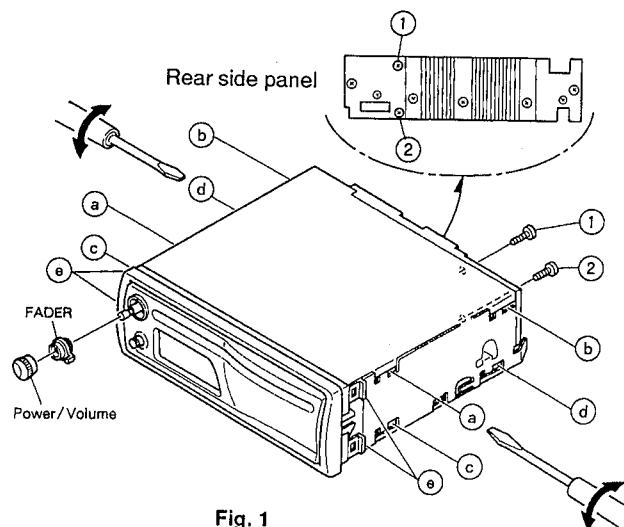

Fig. 1
■ Top cover and bottom cover(refer to Fig. 1)
1. Remove the screw ① retaining the top cover from the rear panel.
2. As shown in the Figure 1, insert a screwdriver in four spaces (a, b) between the main unit and the top cover to release the locks.
3. All the same to 1, remove the screw ② retaining the bottom cover and insert a screwdriver in four spaces (c, d) between the main unit and the bottom cover to release the locks.
■ Front panel assembly (refer to Fig. 1)